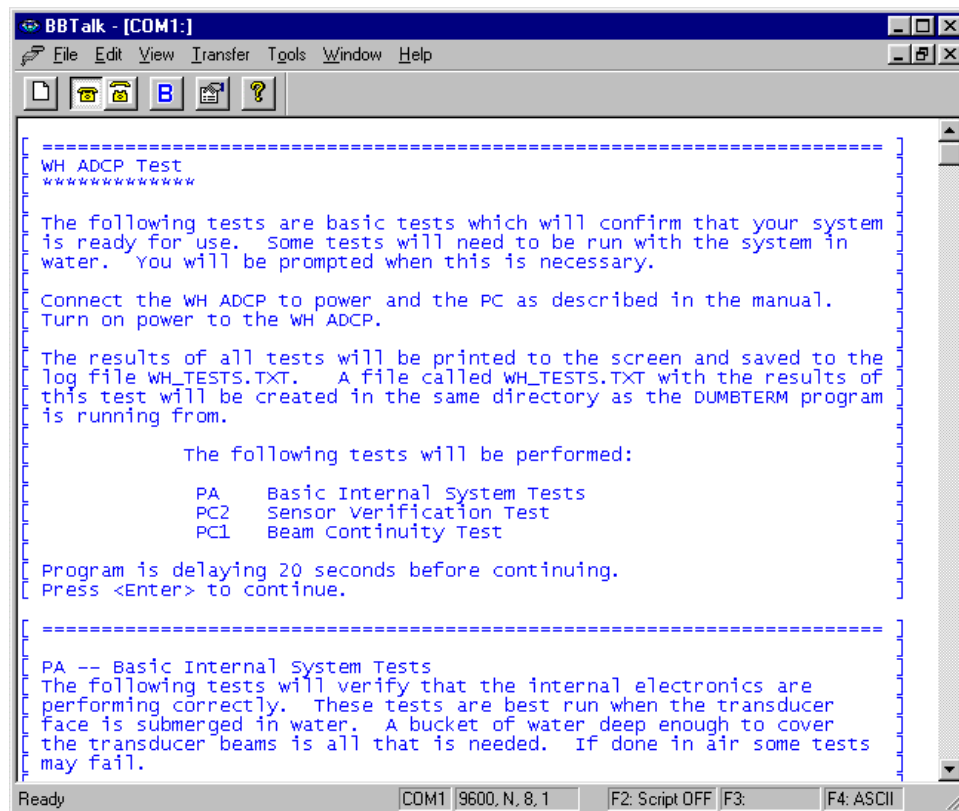

Figure 10. Running a Script File to Test the ADCP
- Follow the prompts on the screen (see Figure 10, page 15).